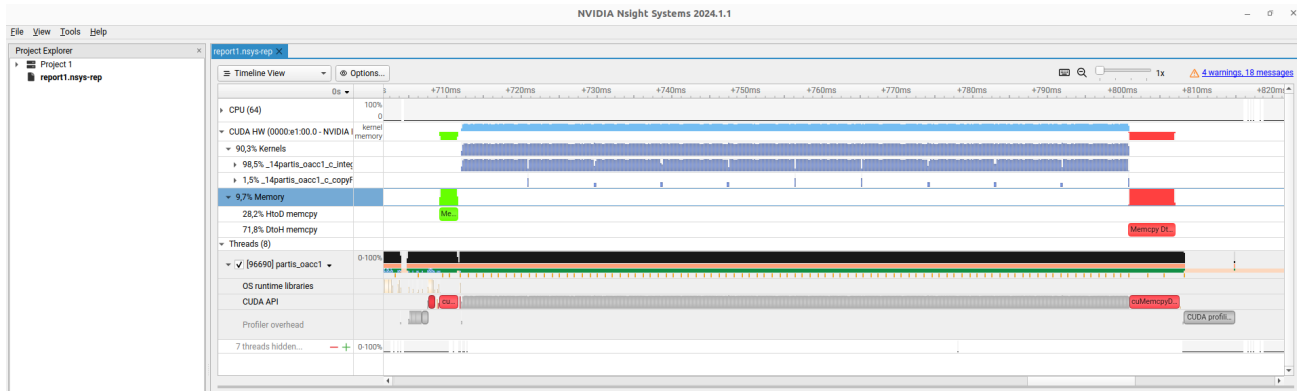

Figure 6: Example of visual profiling of an OpenACC execution of the particle simulation program.
2. Copy the generated profiler output file (.nsys-rep) to your local machine and open it using the Nsight Systems GUI. Figure 6 illustrates an example of what you should expect.